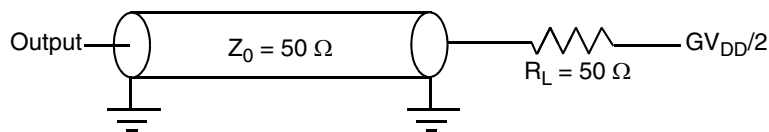
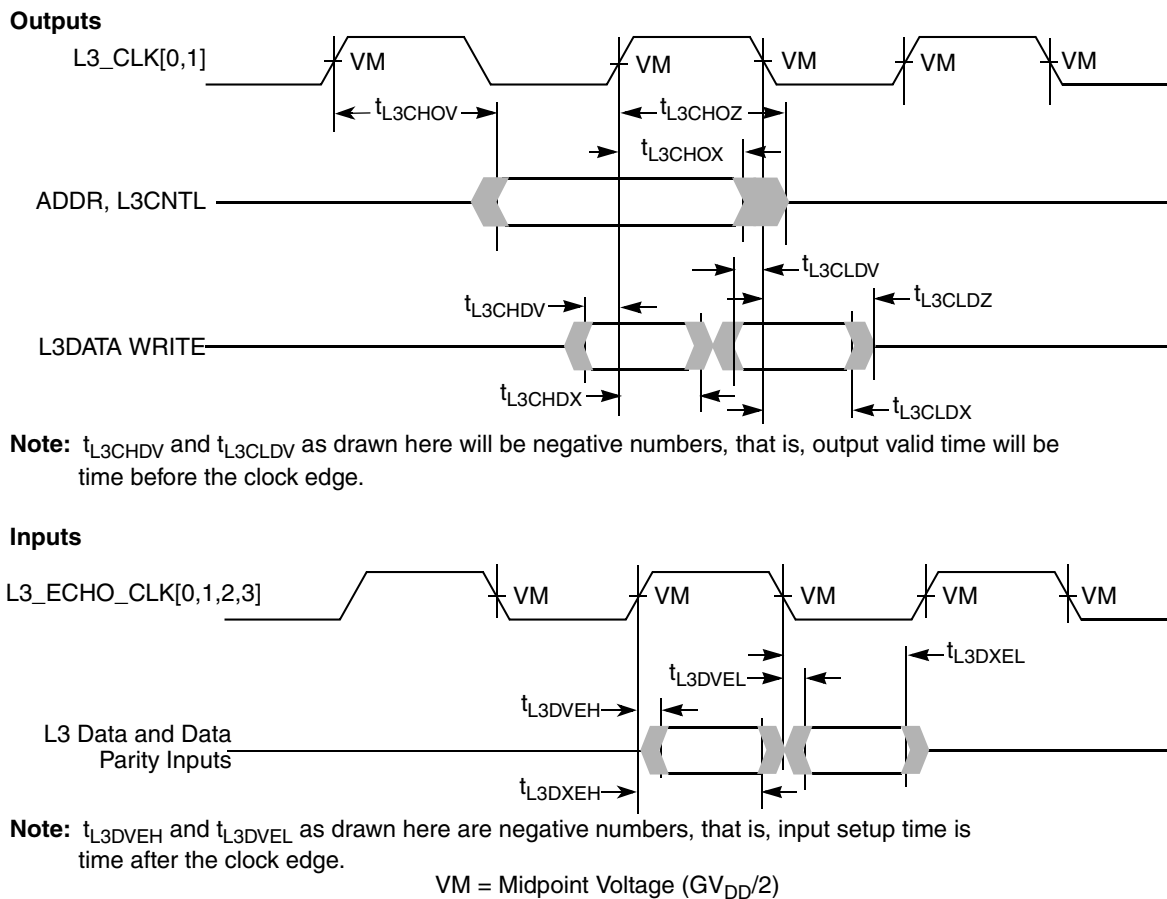
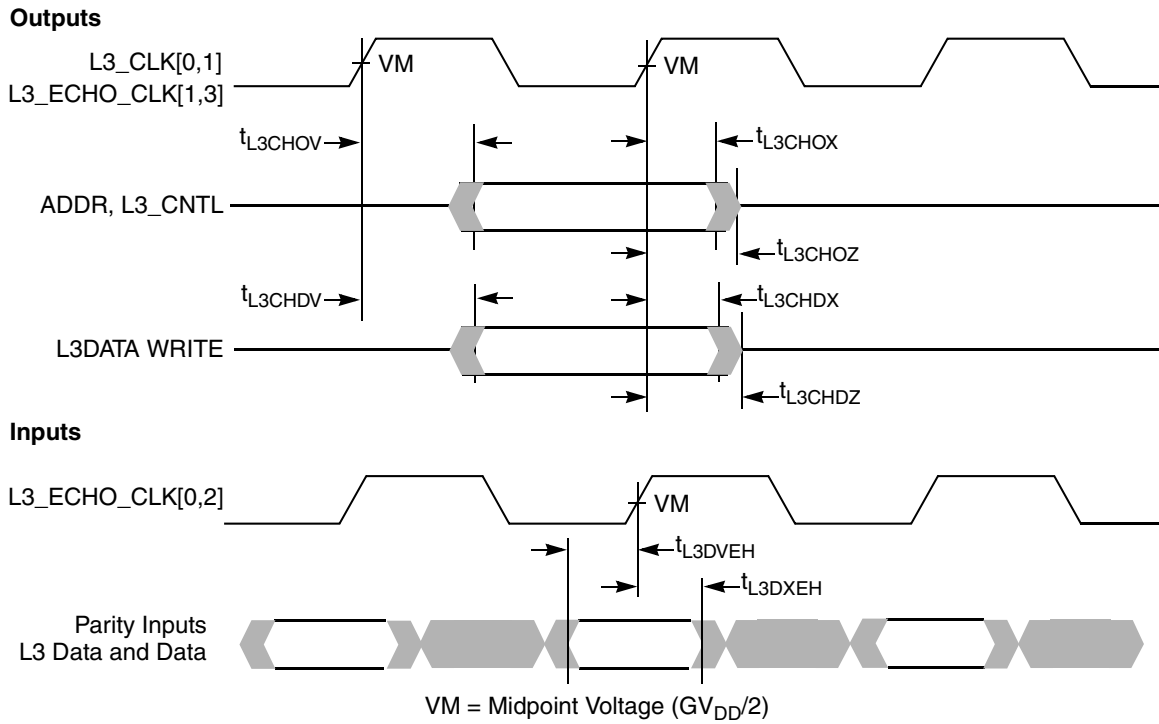

Figure 8. AC Test Load for the L3 Interface
Figure 10. L3 Bus Timing Diagrams for L3 Cache DDR SRAMs
Figure 12. L3 Bus Timing Diagrams for Late Write or PB2 SRAMs
- For high-speed operations, L3 interface address and control signals should be a ‘T’ with minimal stubs to the two loads; data and clock signals should be point-to-point to their single load. Figure 8 shows the AC test load for the L3 interface.
Table 13 provides the L3 bus interface AC timing specifications for the configuration as shown in Figure 9, assuming the timing relationships shown in Figure 10 and the loading shown in Figure 8.
- For DDR, all input specifications are measured from the midpoint of the signal in question to the midpoint voltage of the rising or falling edge of the input L3_ECHO_CLK n (see Figure 10). Input timings are measured at the pins.
- For DDR, the input data will typically follow the edge of L3_ECHO_CLK n as shown in Figure 10. For consistency with other input setup time specifications, this will be treated as negative input setup time.
- All output specifications are measured from the midpoint voltage of the rising (or for DDR write data, also the falling) edge of L3_CLK to the midpoint of the signal in question. The output timings are measured at the pins. All output timings assume a purely resistive 50- Ω load (see Figure 8).
- For DDR, the output data will typically lead the edge of L3_CLK n as shown in Figure 10. For consistency with other output valid time specifications, this will be treated as negative output valid time.
Figure 10 shows the L3 bus timing diagrams for the MPC7457 interfaced to MSUG2 SRAMs.
Table 14 provides the L3 bus interface AC timing specifications for the configuration shown in Figure 11, assuming the timing relationships of Figure 12 and the loading of Figure 8.
3. All input specifications are measured from the midpoint of the signal in question to the midpoint voltage of the rising edge of the input L3_ECHO_CLK n (see Figure 10). Input timings are measured at the pins.
4. All output specifications are measured from the midpoint voltage of the rising edge of L3_CLK n to the midpoint of the signal in question. The output timings are measured at the pins. All output timings assume a purely resistive 50- Ω load (see Figure 10).
Figure 12 shows the L3 bus timing diagrams for the MPC7457 interfaced to PB2 or Late Write SRAMs.